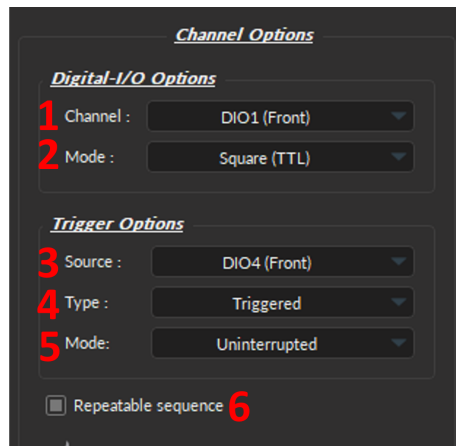
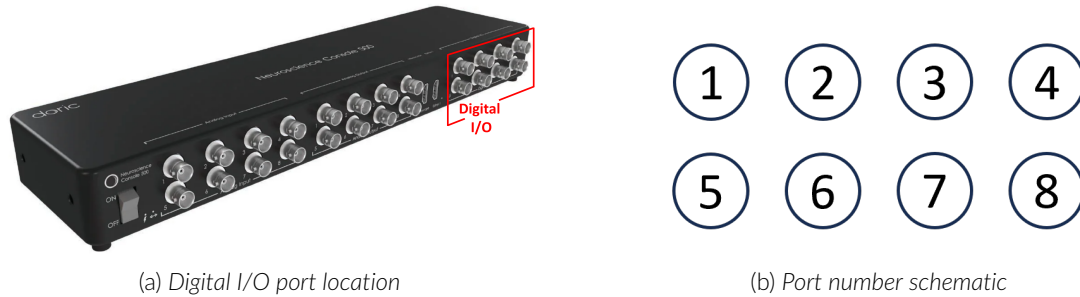
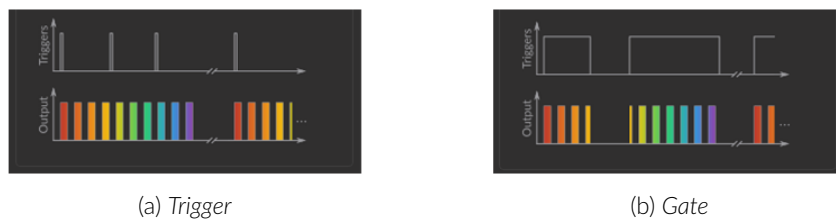

Figure 11.31: Digital I/O, Channel Options
Figure 11.32: NC500 channel ports
Figure 11.34: Trigger Options Modes
The *Channel(s) Configuration* window for the **Digital I/O** Channel is divided into three sections (Fig. 11.34): (1) the **Channel Options** (Section 11.6.1.1), (2) the **Sequence Options** & (3) **Preview** (both treated in Section 11.6.1.2).
1. The **Channel** (Fig 11.31, 1) identifies the port on the NC500 assigned to the newly created Digital I/O. Each numbered channel on the physical console corresponds to the same number of digital channels within the software (Fig. 11.32).
2. The **Mode** (Fig 11.31, 2) identifies the type of signal sent (for output channels) or the way the signal is measured (for input channels). Three modes are available:
3. The **Source** trigger option (Fig 11.31, 3) allows the choice of a **Manual Trigger** (activated by a user) or an **Input** trigger, coming from a **Digital I/O** channel set in input mode.
4. The **Type** (Fig 11.31, 4) defines the type of trigger that is used to start/stop a sequence. The **Triggered** type can start and stop a sequence at a rising edge while the **Gated** type can start the sequence at a rising edge and stop it at a falling edge (Fig. 11.34). A more refined interaction of the trigger with the defined sequence can be set up using the **Mode** field. Not all Trigger Type are available for each combination of Trigger Mode and Repeatability. The different combinations are shown in Figure 11.35.
5. The **Mode** (Fig 11.31, 5) field defines how the trigger activates a sequence. Each mode is not compatible with each combination of trigger type and repeatability. Figure 11.35 shows the different available combinations for the different Trigger Modes. Four Modes are available and are the following:
6. The **Repeatable sequence** check-box (Fig 11.31, 6), when selected, allows a sequence to be repeated. Not all modes and trigger types can be repeated. Please refer to the Fig. 11.35 to know the repeatable sequence combinations.
The parameters contained in the **Sequence Options** depend on the **Channel Mode** (selected in **Channel Options**, Fig. 11.31), as following:
- The **CW (Continuous Wave)** channel mode (Fig. 11.34) allows the creation of a continuous TTL pulse sequence. The following elements appear in the **Sequence Options** box.
3. The **Source** trigger option (Fig 11.43, 3) allows the choice of a **Manual Trigger** (activated by using the **Record/Live** buttons) or an **Input** trigger, coming from a **Digital I/O** channel set in input mode (Fig. 11.32).